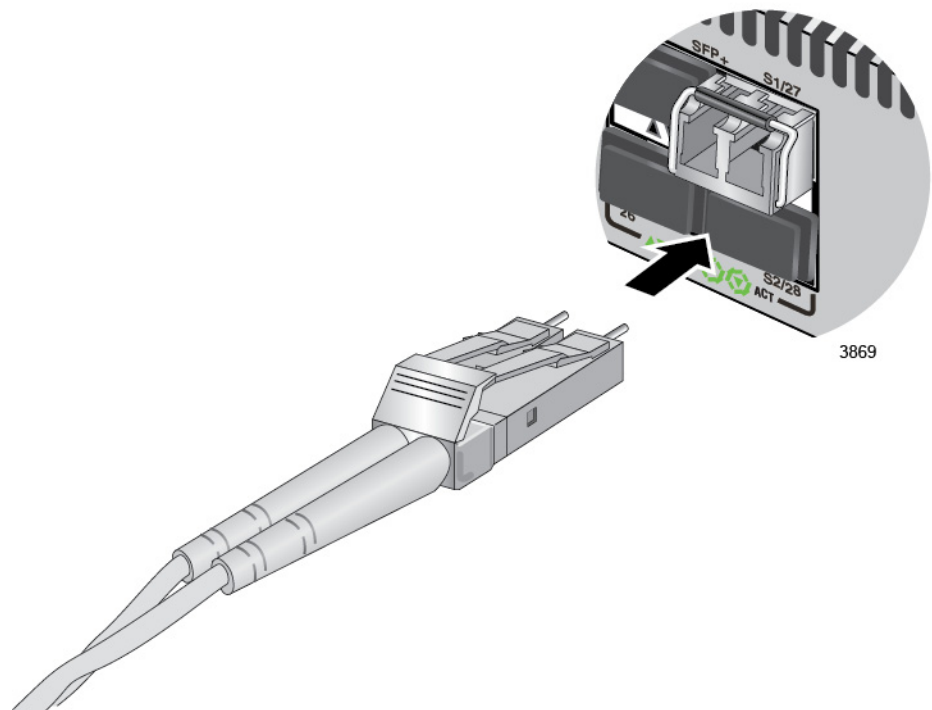

Figure 65. Connecting the Fiber Optic Cable to an SFP+ Module
6. Connect the fiber optic cable to the SFP+ module, as shown in Figure 65. The connector on the cable should fit snugly into the port, and the tab should lock the connector into place.